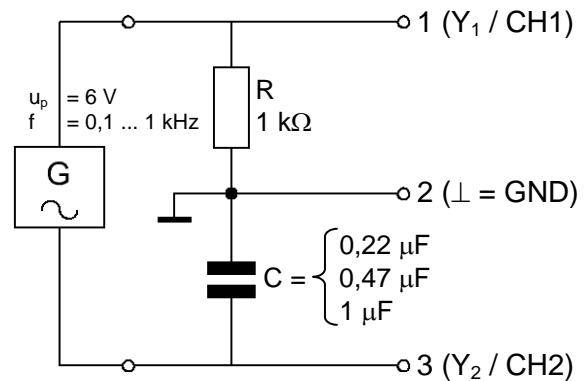

Fig. 13.4.2.1: Exercise circuit to examine the relationship between X_C , f and C
The response of the capacitive reactance X_C will now be examined using the circuit shown in Fig. 13.4.2.1. The current flowing in the capacitor can be calculated from the voltage drop U_R across the resistor R = 1 kΩ (U_R and I_C in phase).
- Assemble the circuit in Fig. 13.4.2.1 on the Electronic Circuits Board.
- Connect the 2-channel oscilloscope as shown in Fig. 13.4.2.1.